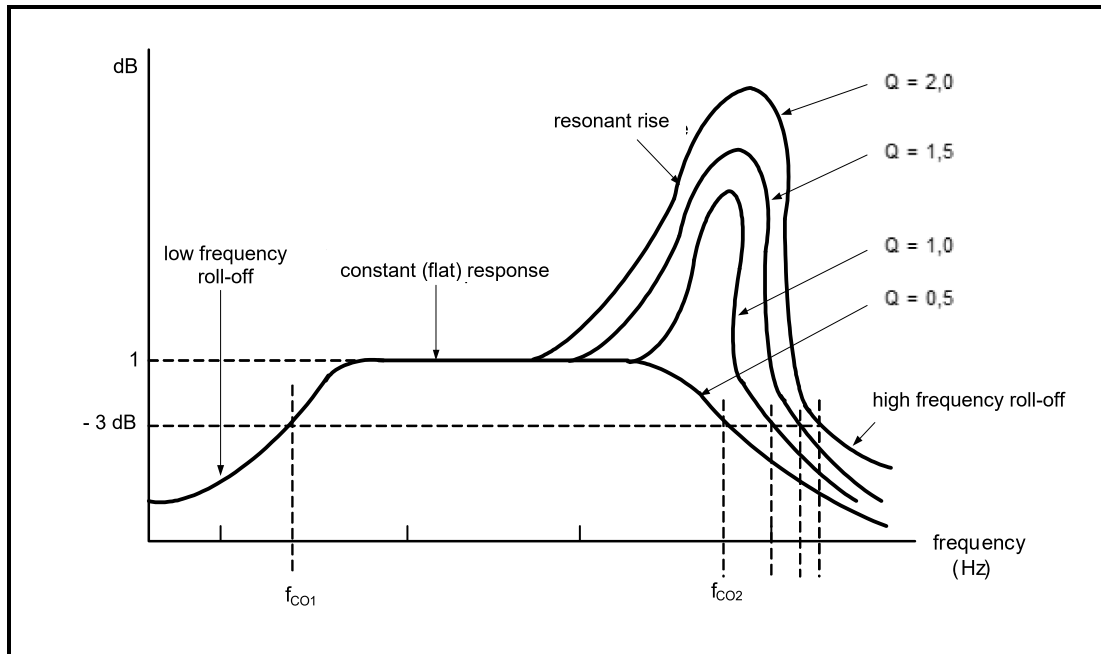

FIGURE 6.6: FREQUENCY RESPONSE CURVE
6.6 Refer to FIGURE 6.6 below and answer the questions that follow.
- 6.6.1 Identify the frequency response curve in FIGURE 6.6 above. (1)
- 6.6.2 Name the component that causes the resonant rise where $Q = 2,0$ in FIGURE 6.6 above. (1)